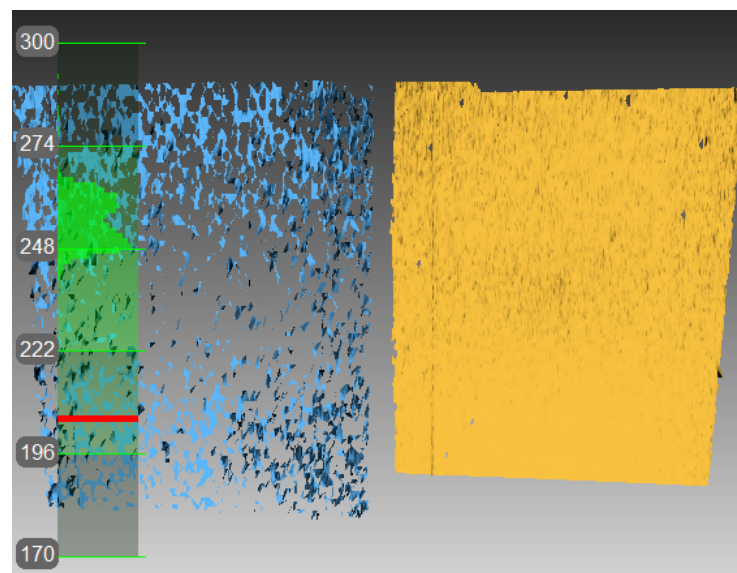

Figure 154: Artec Spider correction results.
In some cases, owing to careless handling or transportation (jolts, accidental drops or some other reason), the scanner may fail to capture surfaces properly. The scanned surfaces may only be partially reconstructed or may contain holes (for example, the results of bad reconstruction are noticeable on the blue surface in Figure 154). You can resolve these issues by correcting or calibrating the scanner.
9. Repeat Step 8 three more times. Once you finish, the calculation will start. A yellow plane that corresponds to the surface you captured using the corrected calibration settings will then appear in the *3D View* window (see *Figure 154*).